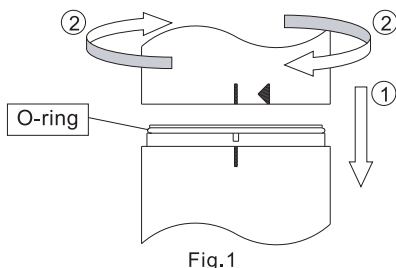

Fig.1
- Make sure the O-ring is mounted in position first on the lower unit as shown in Fig.1, before placing the upper unit onto the lower unit.
- Make sure the O-ring is mounted as shown in Fig.1, then align the locating mark of each unit, and place the units together in the direction of the arrow (①) as shown.